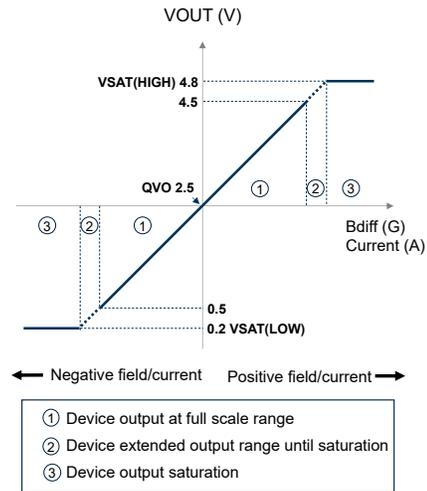

Figure 4: Bidirectional output range at 5 V VCC
As seen in Figures 4 and 5, the output range can be separated in three segments: the full-scale range (1) usually defined as the measurement range, the extended range (2) and the saturation range (3).